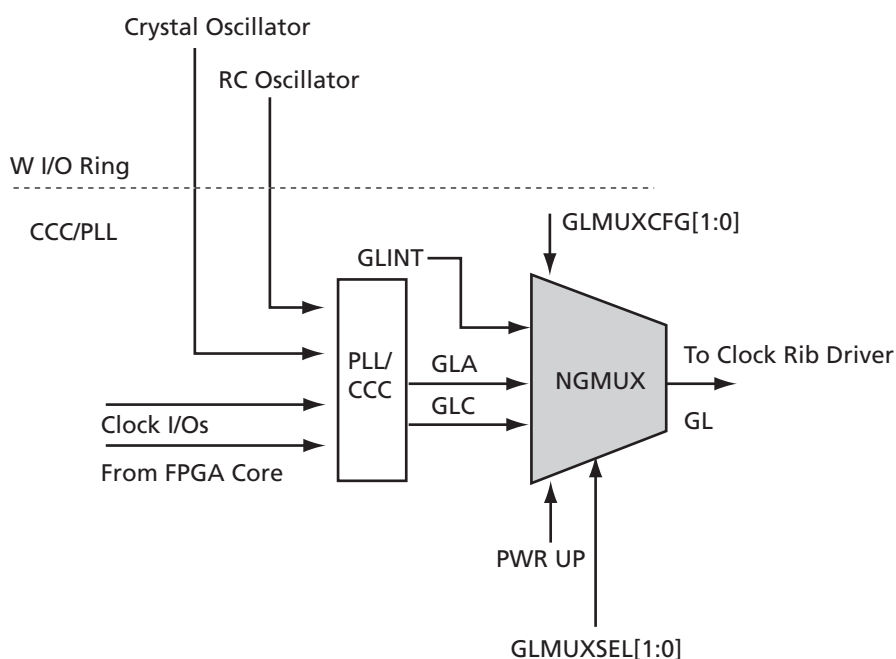

Figure 2-24 • NGMUX
in Figure 2-24. The GLMUXCFG[1:0] configuration bits determine the source of the CLK inputs (i.e., internal signal or GLC). These are set by SmartGen during design but can also be changed by dynamically reconfiguring the PLL. The GLMUXSEL[1:0] bits control which clock source is passed through the NGMUX to the global network (GL). See Table 2-13.